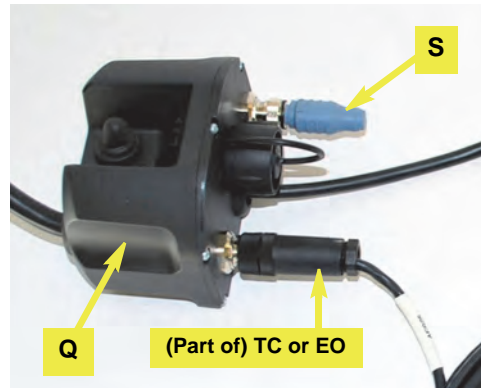

Figure 7d: CAN harness and terminator connected to junction box
e. Connect the threaded 5-pin connector on the CAN bus harness **TC** (eDriveTC) or **EO** (eDriveX) to either of the threaded connectors on the junction box **Q**. Connect the CAN bus terminator **S** to the other threaded connector on the junction box (Figure 7d).